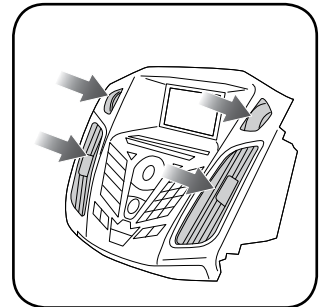

Fig. 1.6
6. Remove the vents from the factory bezel. (Fig. 1.6)